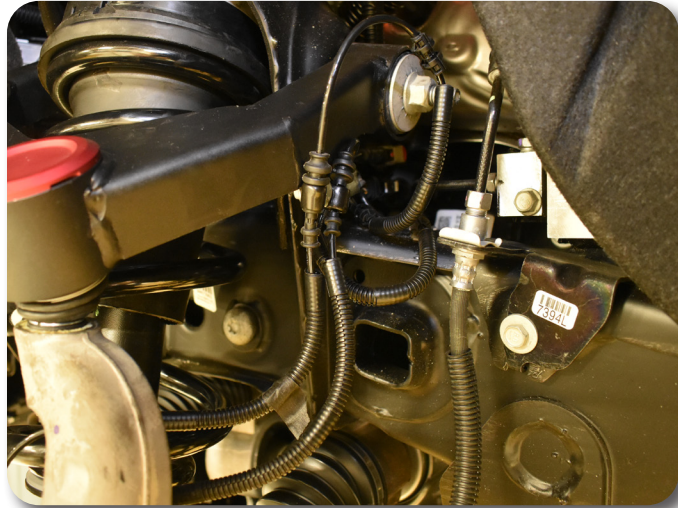

Figure 20
30. Reattach the brake wire / ABS wires to the factory position on the knuckle **Figure 20**. Use the provided wire clamps and 1/4" bolt to attach the brake wire / ABS wire to the upper control arm. Check for enough slack in the wires and adjust as necessary.